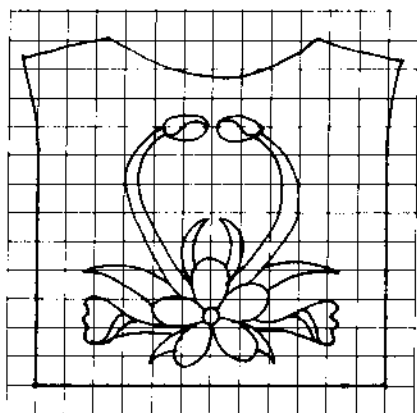

FIGURE 4. Back yoke plan
**Weaving pattern #1:** See Fig. 4. Alternate a tabby pick and a pattern pick.